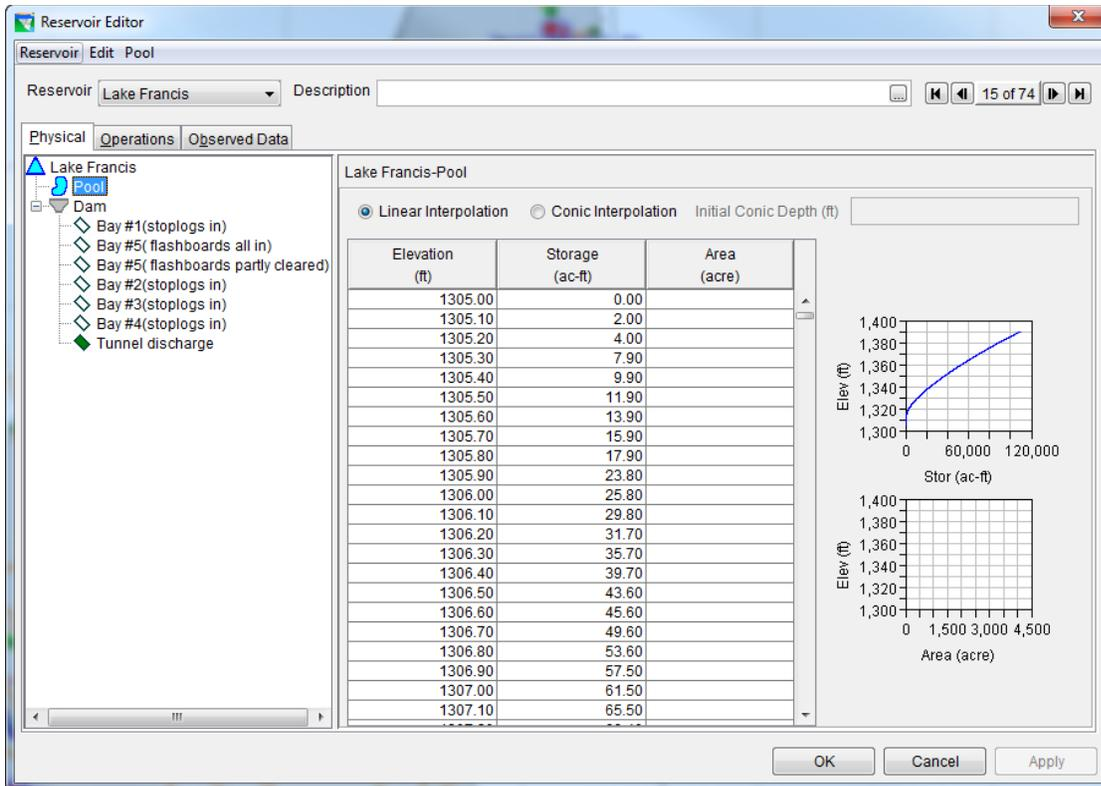
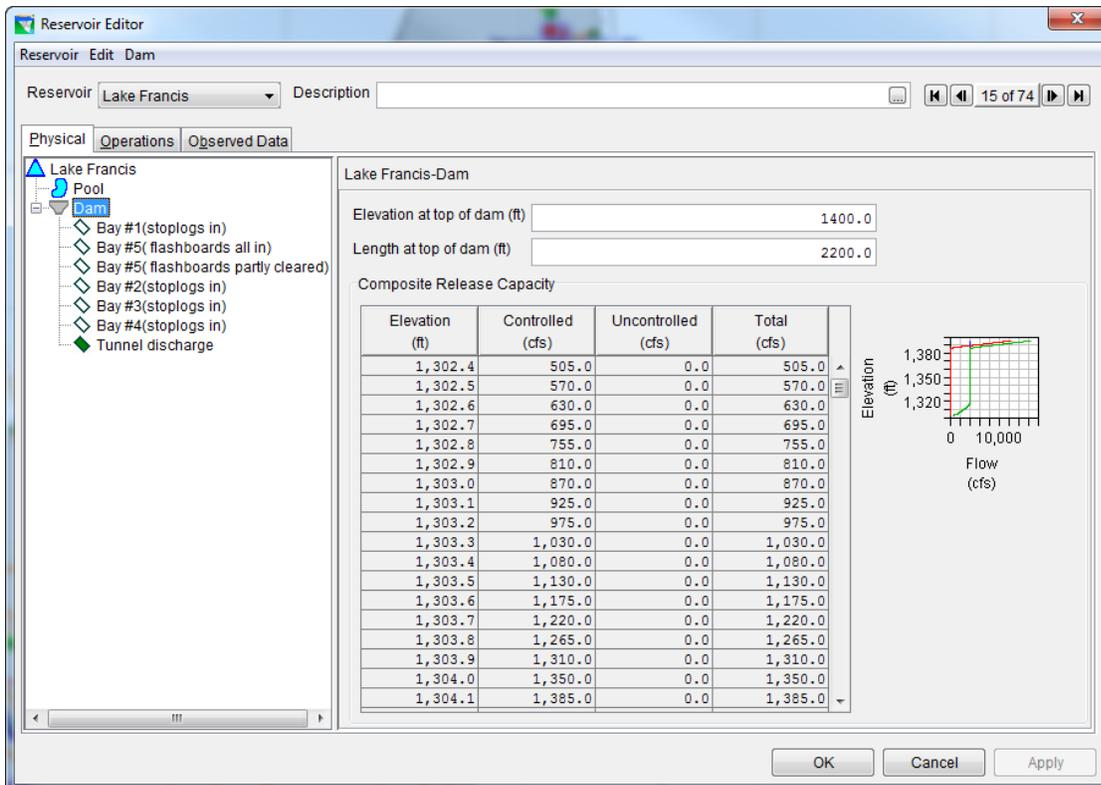

Figure 3: Reservoir Editor: Physical Tab -- Pool
Figure 4: Reservoir Editor: Physical Tab -- Dam
The physical characteristics of the reservoir are separated between the Pool and the Dam in the HEC-ResSim model. The elevation-storage-area defines the pool as shown in Figure 350. The dam consists of seven types of outlets: (1) uncontrolled Bay#1, (2) uncontrolled Bay#5 (flashboards all in), (3) uncontrolled Bay#5 (flashboards partly cleared), (4) uncontrolled Bay#2, (5) uncontrolled Bay#3, (6) uncontrolled Bay#4, and (7) controlled Tunnel discharge as shown in Figure 4.